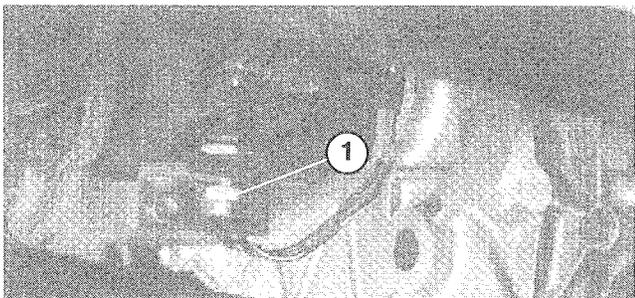

Figure 58
7. Recheck clutch safety switch adjustment (Fig. 58). Engine must not crank unless clutch pedal is $1.25" \pm .12"$ from floor. If an adjustment is required, loosen switch jam nuts and adjust up or down.